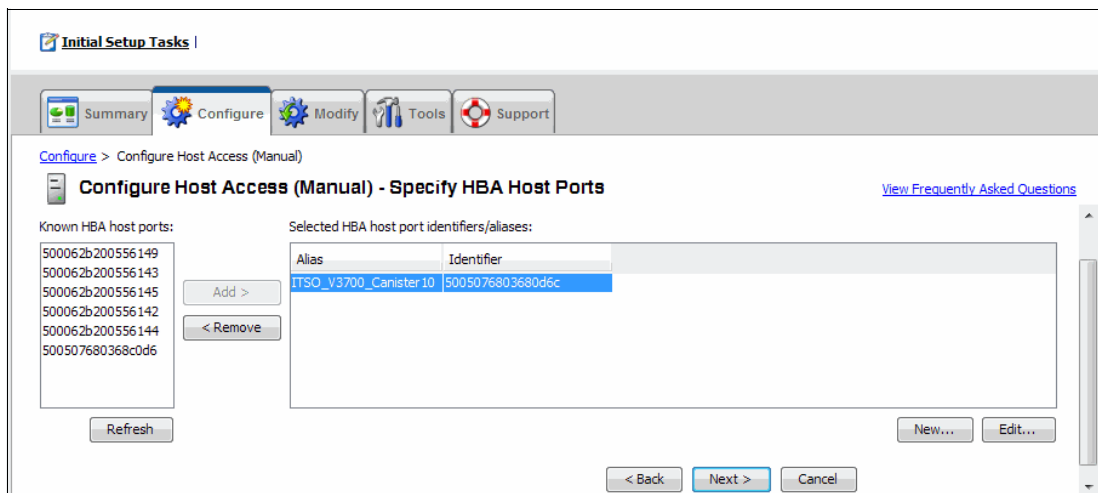

Figure 6-32 Adding WWPN to the host definition
6. In the next pane, assign the V3700 canister WWPN to the host definition, as shown in Figure 6-32. Use the data gathered in 6.2.5, "Recording migration information" on page 252.